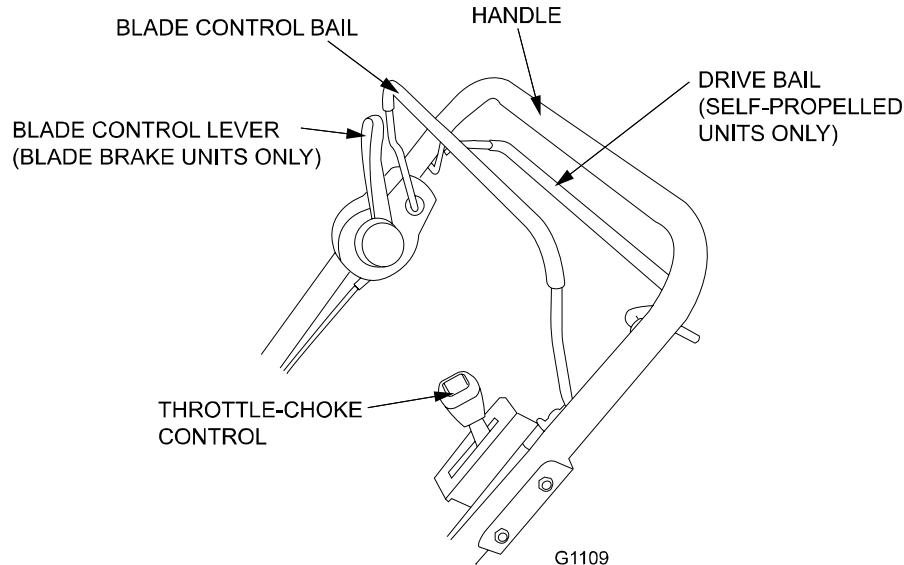

FIGURE 1
Located on the upper handle as shown in Figure 1. ***When the blade control bail is depressed, the system senses that the operator is in the normal operator's position.***
Located on the upper handle as shown in Figure 1. When the self-propel drive bail is squeezed, the unit will move forward at the speed set on the speed control lever. When this bail is released the unit will stop moving.
The throttle-choke control is located on the left side of the handles as shown in Figure 1. The lever is used to control engine speed. Moving the lever to the full forward **(Choke)** position will place the lever in the choke position. The choke aids in starting a cold engine. Moving the throttle control forward will increase engine speed and moving it to the rear will decrease engine speed.
The blade control lever is located on the right side of the handle next to the Blade Control Bail as shown in Figure 1. Moving the blade control lever into the full forward position while depressing the blade control bail engages the blade. Releasing the blade control bail automatically disengages the blades.
3. Squeeze the drive bail against the handle (See Figure 1).
2. Squeeze the blade control bail against the handle (Fig. 1).